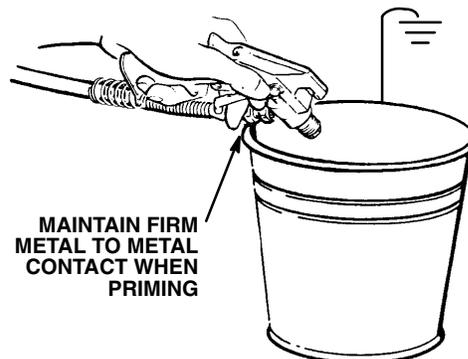

Fig 10-1
6. **To prime the pump**, hold a metal part of the gun firmly against and aimed into a metal waste container. See Fig 10-1. Squeeze the trigger and hold it open, turn the ON/OFF switch to ON, and slowly increase the pressure until the sprayer starts. Keep the gun triggered until all air is forced out of the system and the material flows freely from the gun. Release the trigger and engage the gun safety latch.